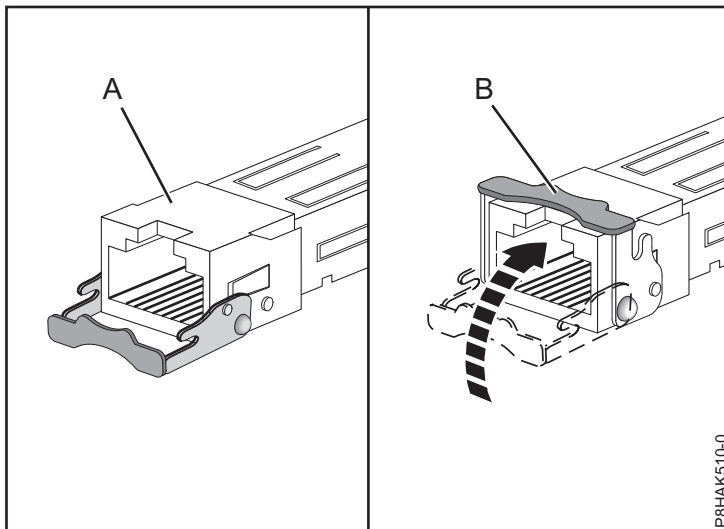

Figure 40. Replacing SFP transceivers in the adapter
- c. With the latch **(B)** in the open position, push the latch by rotating it up and toward the card as shown in Figure 40 on page 60.